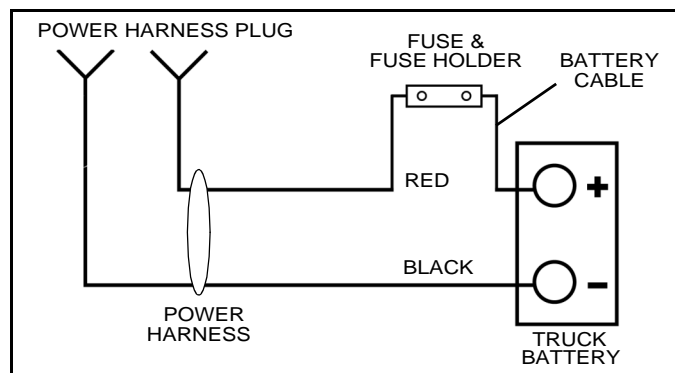

Figure 1-3
2. Mount the fuse holder near the battery using (2) #10 x 1" self-tapping screws.
3. Take the cover off of the fuse holder and remove the nuts on the studs. Place one end of the 2 ft. long Battery Cable wire on one stud. (See Figure 1-3).